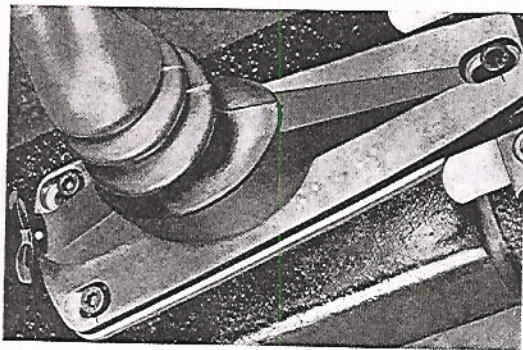

Fig. 94
3. Carefully mark the position of the shift lever base to simplify replacing (Fig. 94).